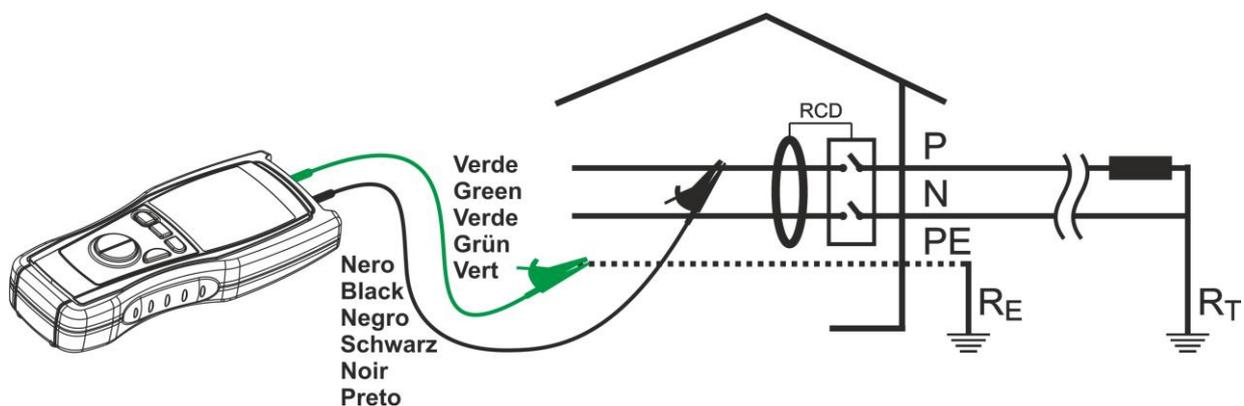

Fig. 11: Connection of the instrument's terminals during M $\Omega$  test
6. Connect the instrument's terminals to the end of the conductors on which the insulation test must be performed (see Fig. 11)